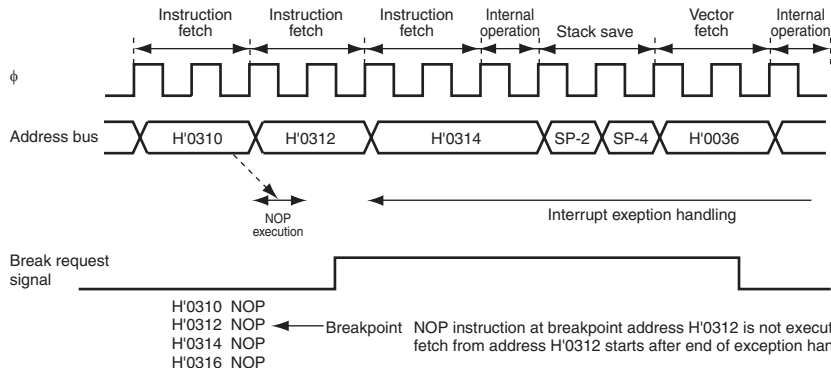

**Figure 5.12 Examples of Address Break Timing**
- As an address break interrupt is generated by a combination of the internal prefetch signal and address, the timing of the start of interrupt exception handling depends on the content and execution cycle of the instruction at the set address and the preceding instruction. Figure 5.12 shows some address timing examples.